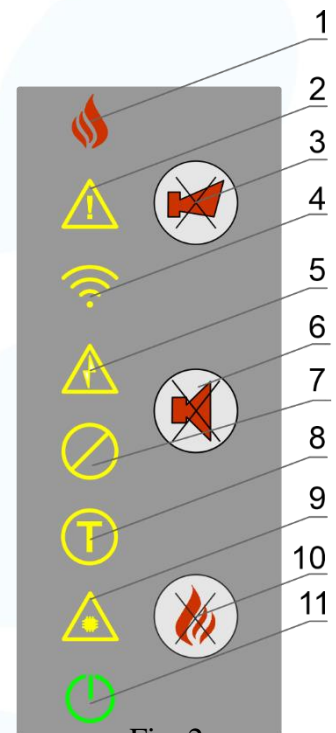

Fig. 2
5.2.1. Indication – in fig. 2 shows the additional indication of the FP9000A-R repeater. It consists of eight fields with light indication and three buttons (two of which with indication). They have the following functionality: pos. 1 – fire indication;